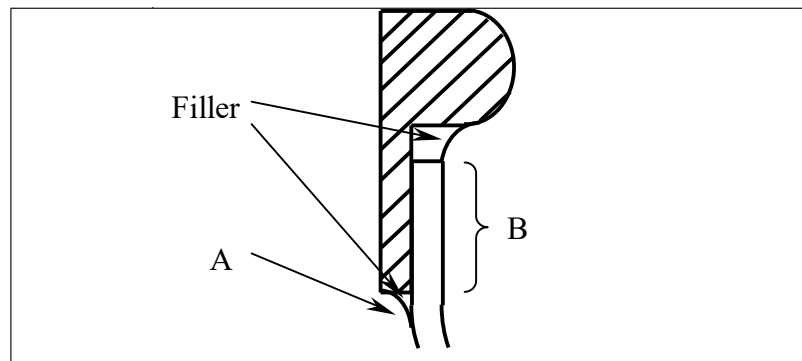

Figure 5 Canopy Adhesive Reminders
- 20 Sand down (using Scotch Brite Handpad Fine) a small area around the outside edge between canopy frame and canopy glass (area A in figure 5).
- 22 Sand down (using Scotch Brite Handpad Fine) the overlapping part between canopy glass and canopy frame on the inside (Area B in Figure 5).